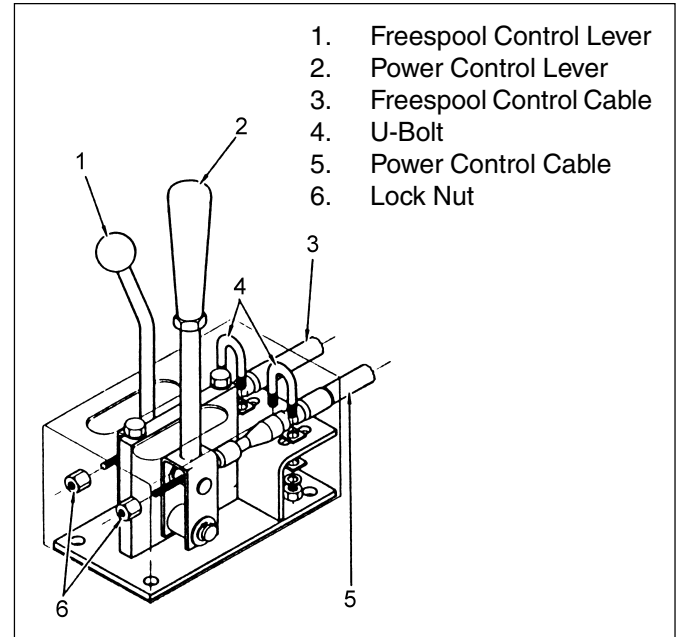

Figure 16 - Control Cable Adjustments
**A.** See Figure 16. Make sure the positions of the power control lever (Item 2) are the same as the position indicators on the control housing. Remove the two capscrews and raise the cover. Loosen the U-bolt (Item 4) that holds the power control cable (Item 5) in the housing to adjust the hand lever.